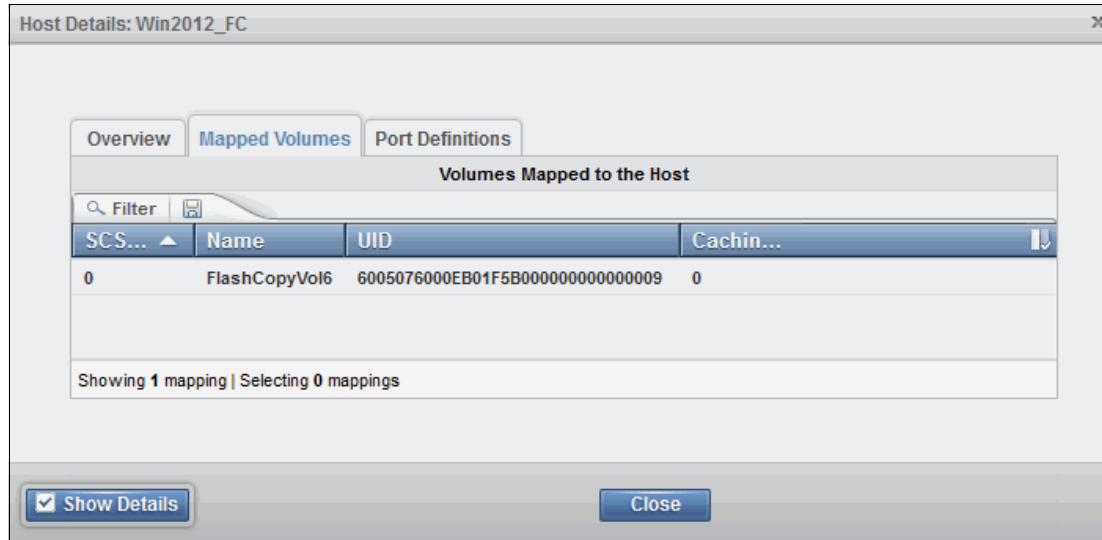

Figure 8-25 Host Details: Mapped Volumes
Figure 8-25 on page 376 shows the **Mapped Volumes** tab, which provides an overview of the volumes mapped to the host. This tab provides the following information:
5. Clicking the **Show Details** option does not show any detailed information, as shown in Figure 8-25.